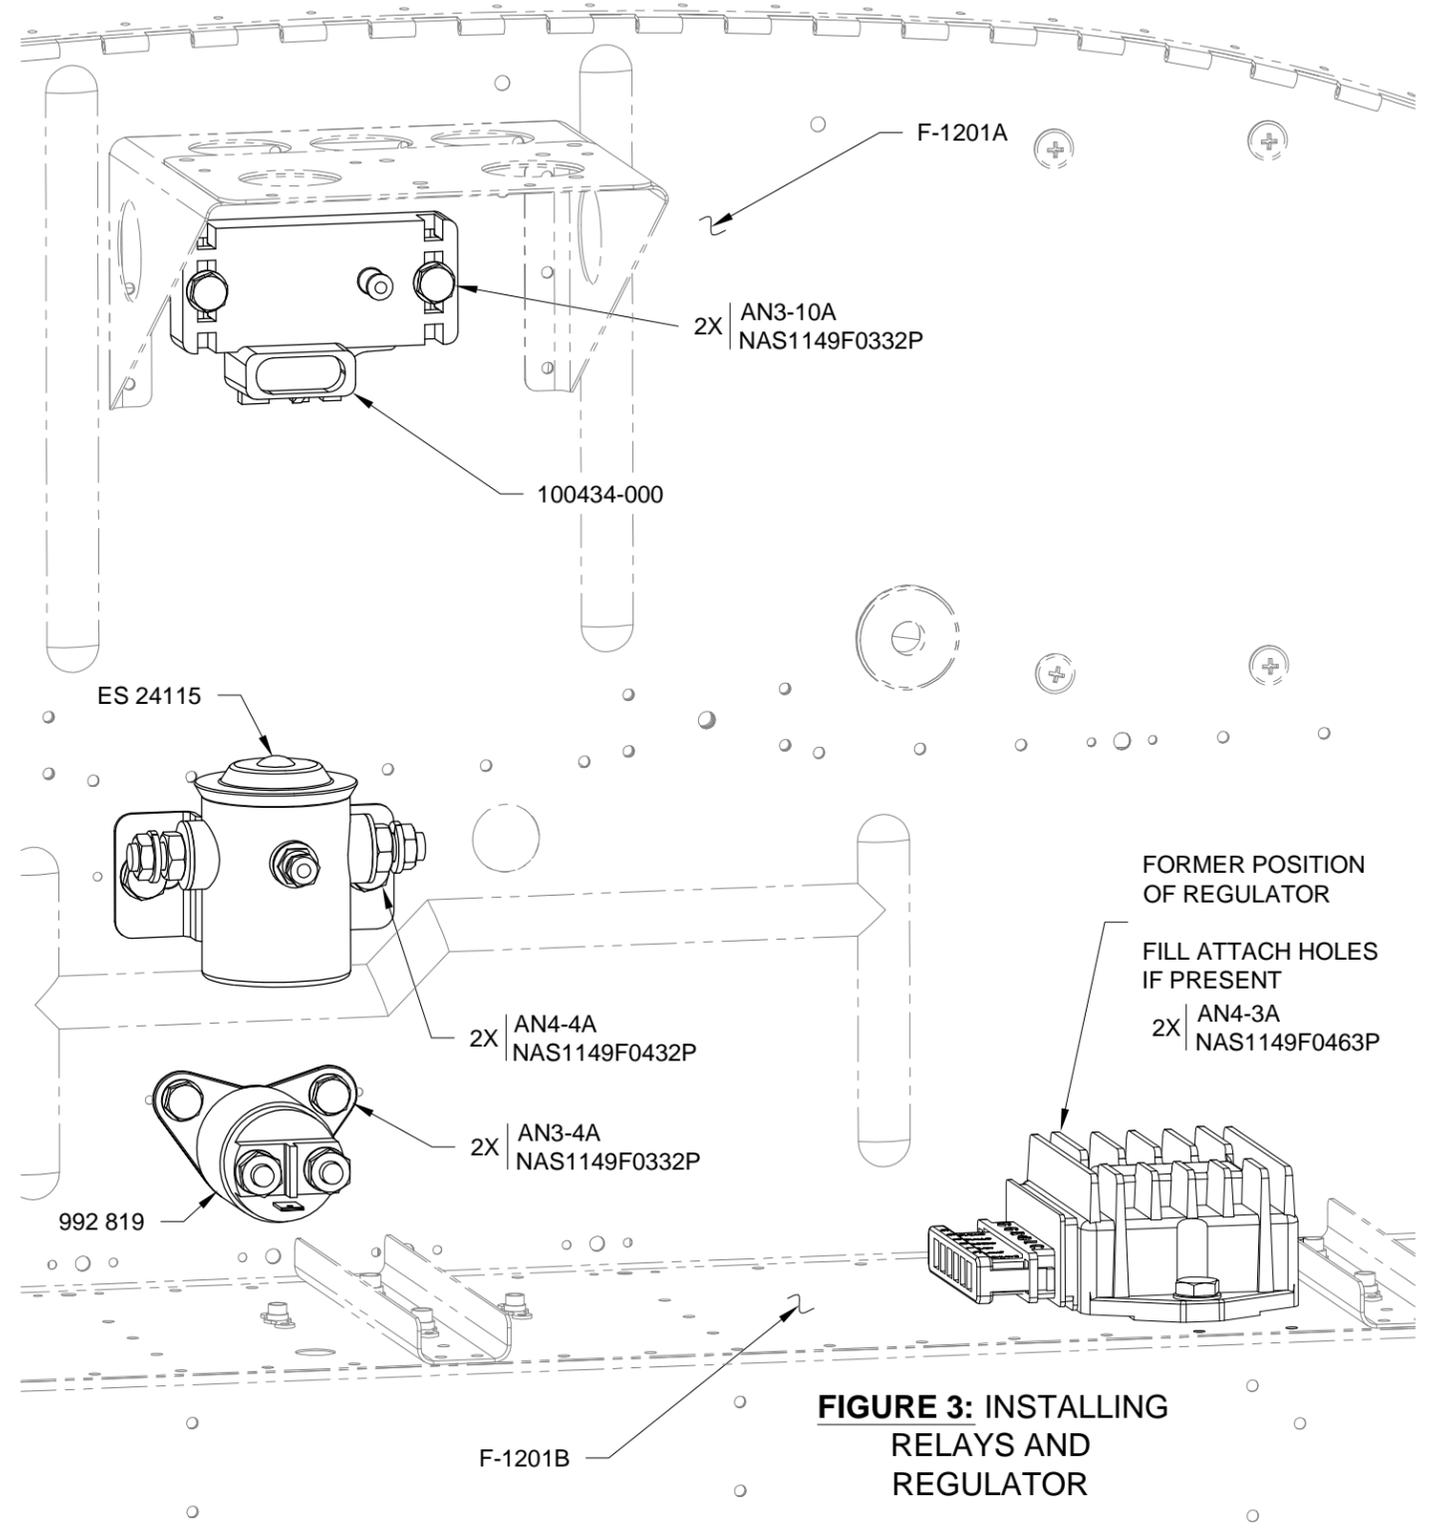

FIGURE 3: INSTALLING RELAYS AND REGULATOR
Step 5: Install the ES 24115 Master Relay, 992 819 Starter Relay and 100434-000 Manifold Pressure Sensor to the F-1201A Firewall Upper using the hardware callouts in Figure 3.
Step 6: Check for attach holes in the F-1202B Firewall Shelf for the 965 349 Rectifier Regulator. If holes are present fill the holes with a bolt and washer as shown in Figure 3. The regulator will be installed in another location, see Sections 46 and 49.